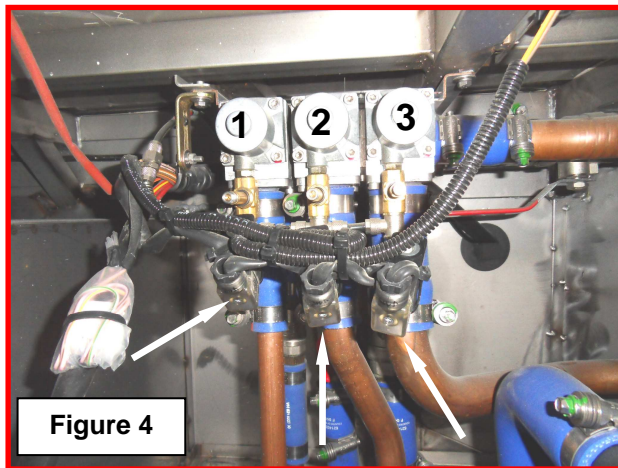

Figure 4
***NOTE:** SB1220 details the proper sequence to open the valves and turn on the pump. However, if you are unable to obtain a copy of SB1220, the valves can be manually opened by removing the valve solenoids (Figure 4).*
- 2) Once stable, open the heating circuit valves by removing the valve solenoids and engage the boost pump, Figures 4 and 5. Allow the boost pump to run for 5 minutes.
- 3) Turn off the boost pump and reinstall the solenoids to the valves (Figures 4 and 5).
- 6) Remove the solenoid of the left-hand valve for the floor heaters (1, Figure 4).
- 7) Remove the solenoid of the center valve for the driver's heater (2, Figure 4).
- 8) Remove the solenoid of the right-hand valve for the roof heater circuit (3, Figure 4).
- 9) Remove the solenoids of the left-hand and center valves (1 and 2, Figure 4).